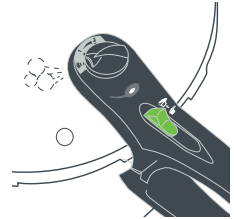

Fig.7
3. Eliminate pressure automatically. To use the automatic option, turn operating valve to steam expulsion position (Fig.7), and steam will be automatically expelled. Once all steam has been totally expelled and the pressure indicator has dropped, move to **point 4 of this section.**